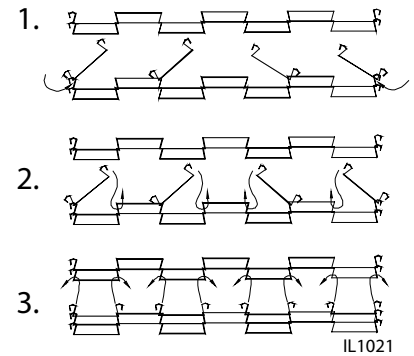

Fig 1. Master Links Removal & Installation
3. Heavily soiled conveyor surfaces, locate the Master Links on the conveyor belt. Follow the step 1 in Fig 1, to remove all of the Master Links. 314 models have 3 master links, 318 models have 4 master links.
11. Reinstall the previously removed master links as shown in steps 2 & 3 in Fig. 1.